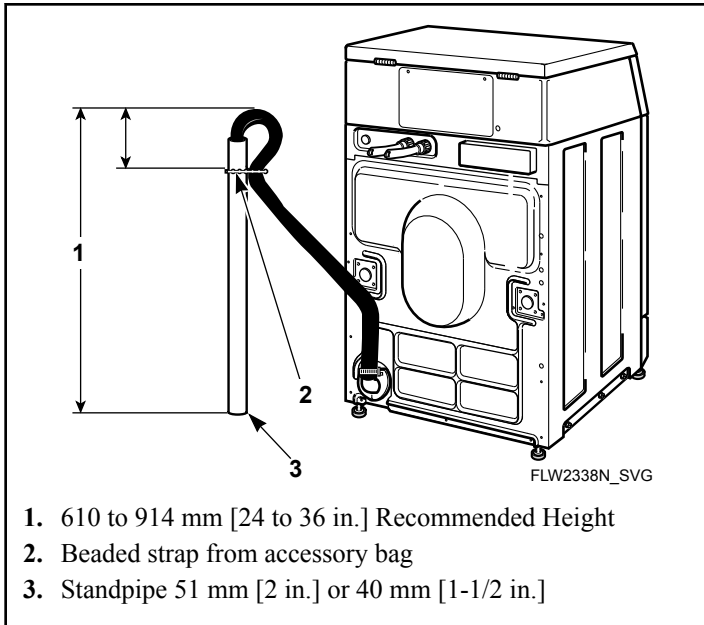

Figure 10
2. Remove the beaded tie-down strap from accessories bag and place around standpipe and drain hose and tighten strap to hold hose to standpipe. Refer to *Figure 10*. This will prevent